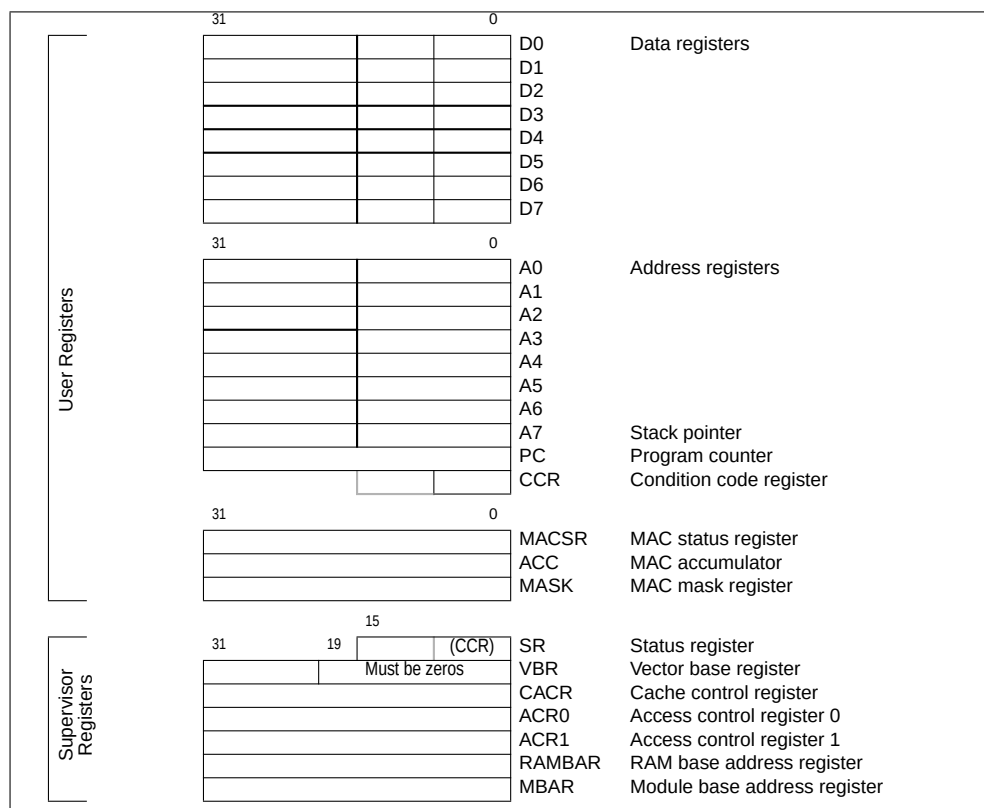

Figure 2-3. ColdFire Programming Model
As Figure 2-3 shows, the user programming model consists of the following registers:
The CCR, Figure 2-4, occupies SR[7–0], as shown in Figure 2-3. CCR[4–0] are indicator flags based on results generated by arithmetic operations.
The MCF5307 supervisor programming model is shown in Figure 2-3. Typically, system programmers use the supervisor programming model to implement operating system functions and provide memory and I/O control. The supervisor programming model provides access to the user registers and additional supervisor registers, which include the upper byte of the status register (SR), the vector base register (VBR), and registers for configuring attributes of the address space connected to the Version 3 processor core. Most supervisor-mode registers are accessed by using the MOVEC instruction with the control register definitions in Table 2-2.